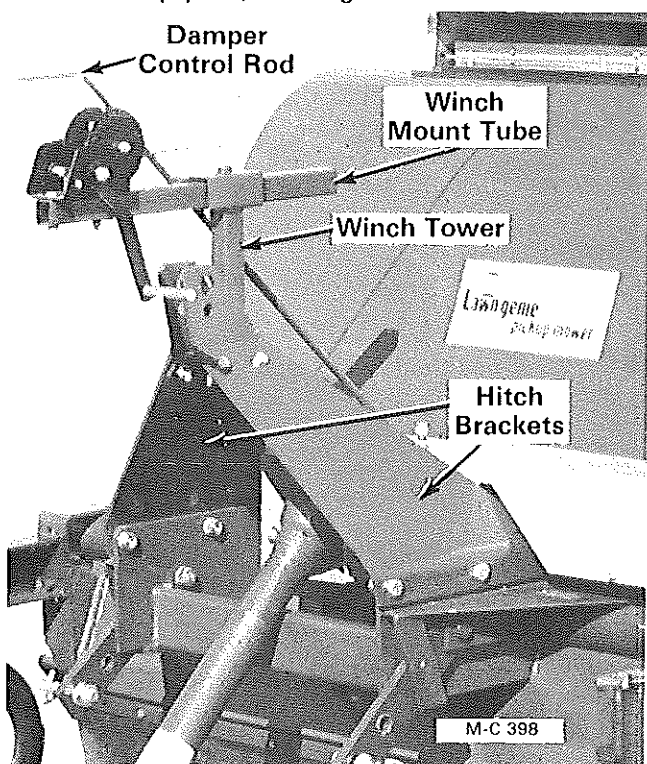

Figure 1
(This kit may be installed on Model LG72 Lawn Genies that are equipped with the hitch bracket shown in Figure 1).
**NOTE:** If this kit is being installed on a Lawn Genie that is equipped with a winch, remove the winch mount tube, winch and cable. Remove and save the four ½-13 x 1½" capscrews, lockwashers and hex nuts securing the winch tower to the hitch brackets, see Figure 1. Lift the winch tower and slide the damper rod bracket off of the damper rod.